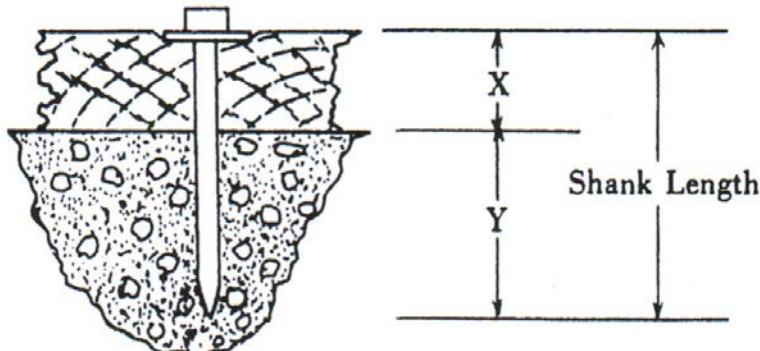

Fig. 27
Drive Pins - In selecting the proper drive pin for concrete or masonry, you must determine the correct shank length by allowing for the thickness of the material to be fastened (X), plus the depth of penetration required (Y) utilizing the following shank diameter-penetration rules. (**Fig. 27**).